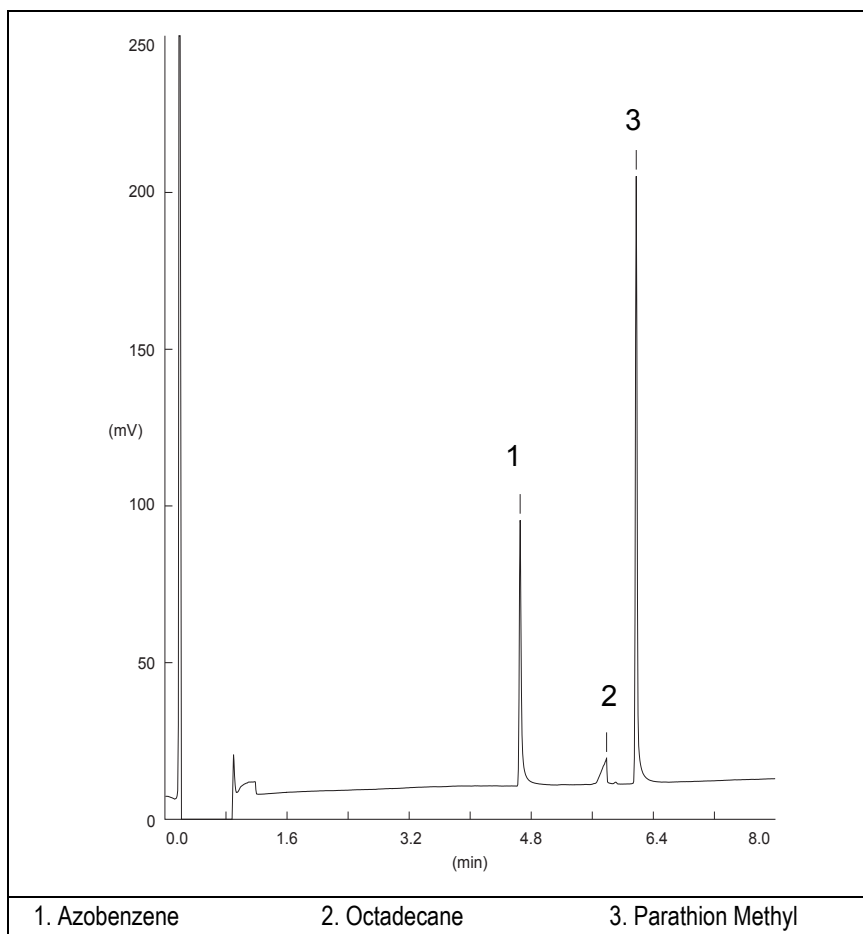

Figure 12-1. NPD-Splitless Injection
13. Inject the test mixture and press **START** on the GC to begin the checkout run. The resulting chromatogram should look like the one shown in *Figure 12.1*.